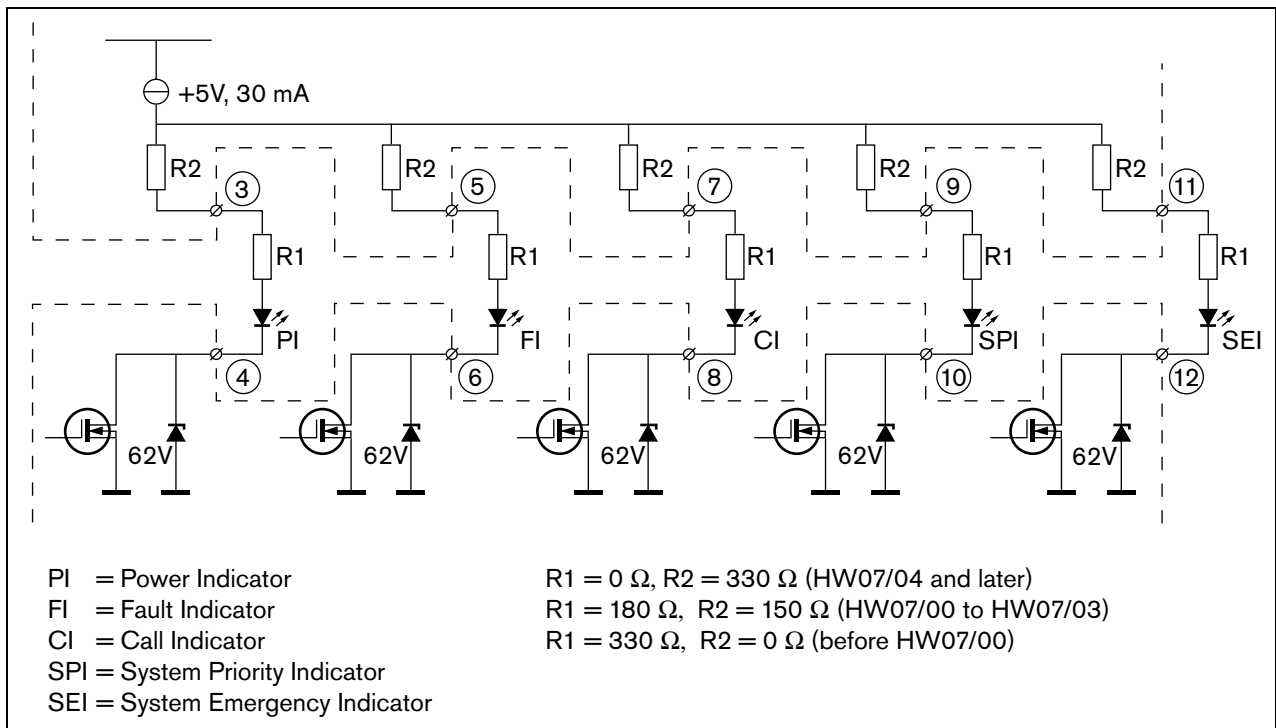

figure 18.9: Internally powered LED
- Internally powered lamp or LED. See figure 18.9 for a connection diagram.
- Externally powered lamp or LED. See figure 18.9 for a connection diagram.
The value of resistor R in figure 18.9 depends on the voltage of the external source, the forward voltage of the LED and the current flowing through the LED: